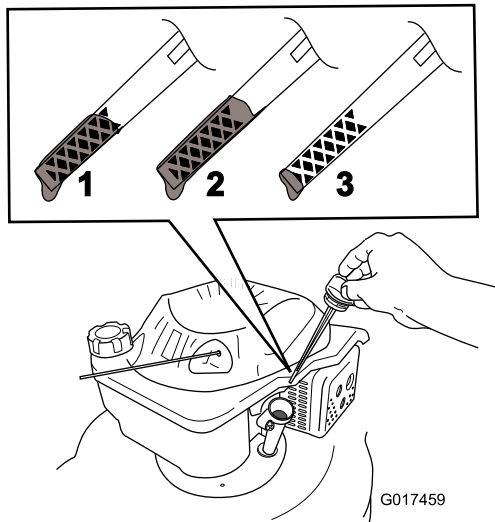

Figure 7
2. Remove the dipstick (Figure 7).
3. **Slowly** pour oil into the oil fill hole, wait a few minutes, and check the oil level on the dipstick by wiping the dipstick clean and then inserting, **but not screwing in**, the oil fill cap into the hole (Figure 7).
Note: Fill the engine crankcase with oil until the dipstick indicates that the engine oil level is correct as shown in Figure 7. If you overfill the engine with oil, remove the excess oil as directed in Changing the Engine Oil.